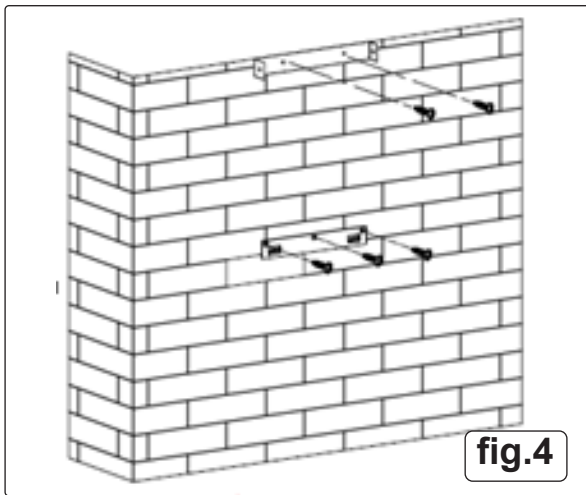

fig.4
- Drill 5 Ø8mm holes on a suitable place to accommodate the hook and inside chimney bracket once the installation height is fixed, keep it in line. The fixed position of the inside chimney bracket is the place of chimney. See fig.4.
- Screw and tighten the hook onto the wall with the 3pcs screws (4mm x 40 mm) and wall plugs provided. Then use 2 pcs ST4*40mm screws to fix the inside chimney bracket. See fig.4.